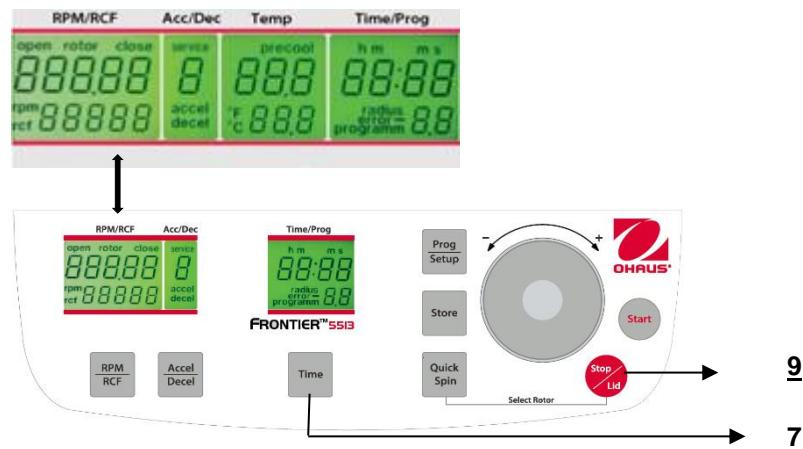

Figure. 28
While the centrifuge is turned off, press simultaneously the keys "Time"(7) and "Stop/Lid" (9) and turn on the main switch of the centrifuge. Now release both keys and as a result a display test is executed for approx. 5 seconds. All indicators will appear at the same time (See figure 28).